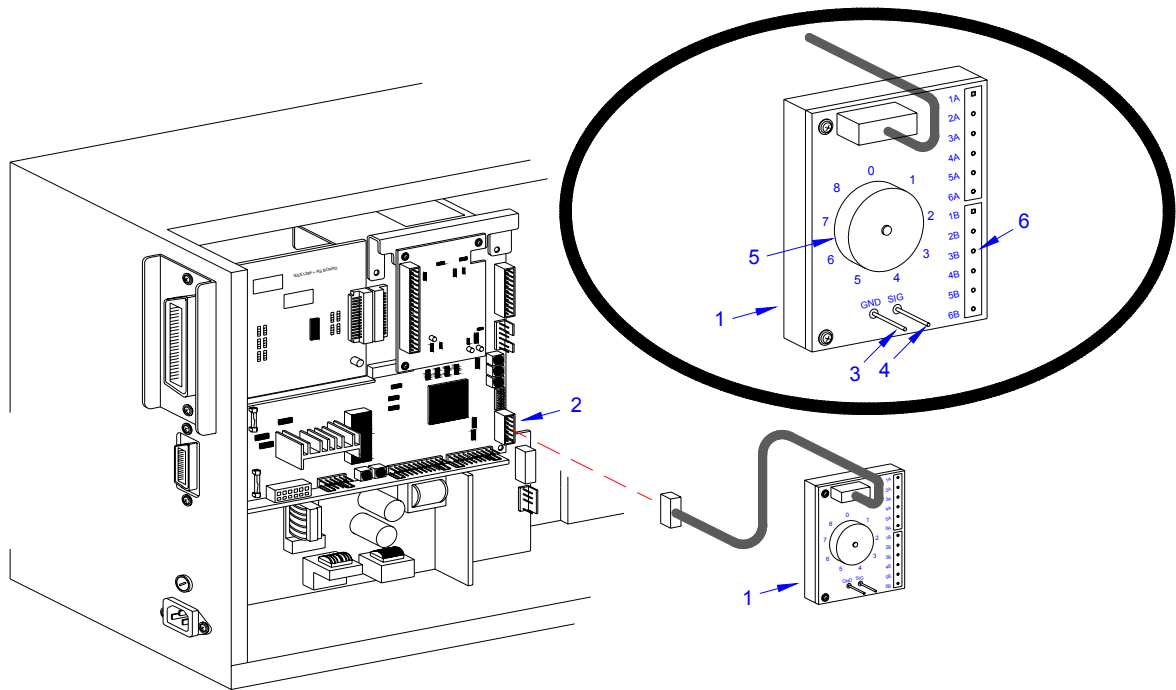

Figure 6-1, TP Test Module Usage
- 2 Connect the harness from Test Module (1, Figure 6-1) to main circuit board connector (2).
- 3 Connect the multimeter ground probe to the pin identified as GND (3) on Test Module (1).
- 4 Connect the multimeter positive probe to the pin identified as SIG (4) on Test Module (1).